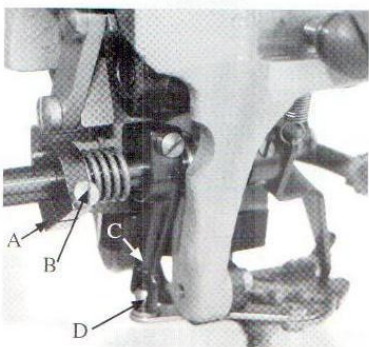
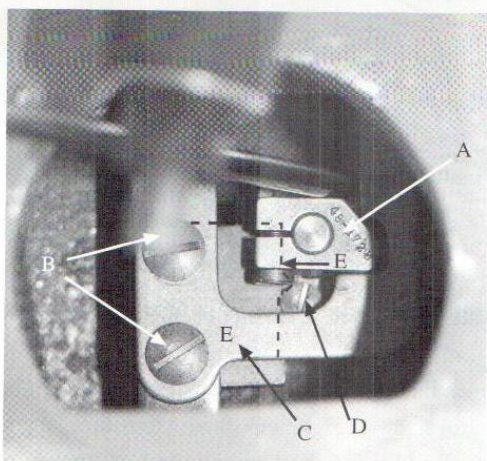
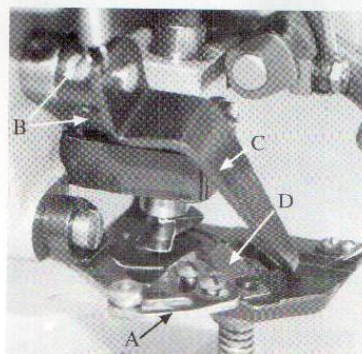

Fig. 12
Fig. 14
Fig. 13
With thread cutting finger (A, Fig. 13) at the back of its travel, set the trimmer lever (C, Fig. 12) so that it is over the center of the ball (D) from front to back.
Check position of thread wiper crank (A, Fig. 14) through the access hole at the back of the machine. With the machine in stop position, this crank should be horizontal or slightly below to the right. If the crank is not in this position, loosen the two set screws (B, Fig. 13) in the thread wiper finger (C). Return to the back of the
machine, and loosen the two screws (B, Fig. 14) in the cam plate (C), and move the crank (A) to the desired position. Now, slightly tighten one screw in the thread wiper finger (C, Fig. 13).
The screw stud in the crank (D, Fig. 14) should rest against the lower edge of the cam lobe (E) and against surface of the cam below the lobe. To do this, insert a screw driver through the opening in the cam plate, and using it as a lever, apply downward pressure to the cam while tightening the two screws (B) and maintaining the cam plate (C) in its proper position to hold the crank (A) horizontally as previously described. Now, return to the thread wiper finger (C, Fig. 13), and check its position.
The thread cutting knife(D, Fig. 13) should be set forward in its slot enough to provide proper cutting action.